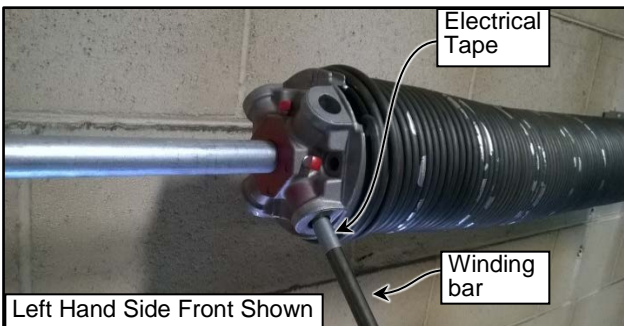

Figure 84
- Tape winding bars as shown. This will help assure you are inserting completely into the cones when winding/unwinding the torsion springs to prevent bars from slipping out of the cone. (See Figure 84)